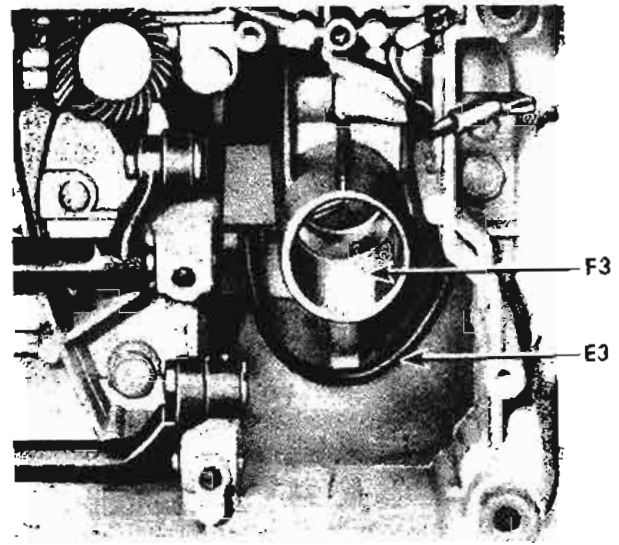

Fig. 52. Location of Wires around Motor
1. Make certain that light lead E3 is correctly located around cylindrical tube F3, as shown in Fig. 52.
NOTE: Motor must be removed for this operation (see page 28) and light lead E3 must be correctly located around cylindrical tube F3, as shown in Fig. 52.